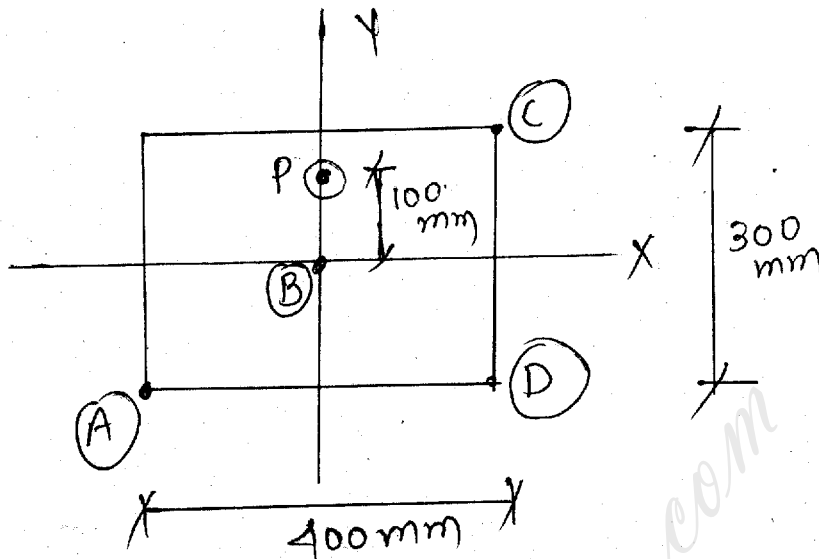

Fig. 7
- 7 A column is subjected to eccentric load of 1000 kN as shown in figure 7. Calculate stresses at points A, B, C and D. 12